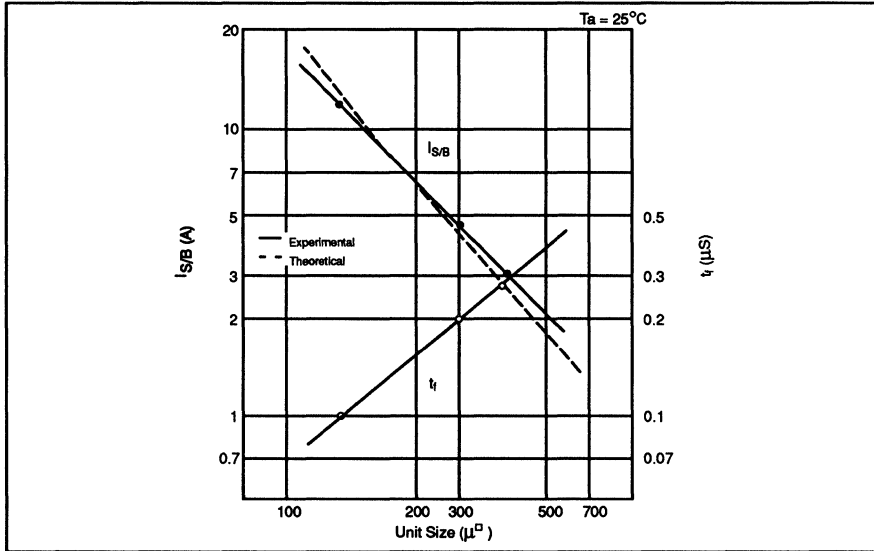

Figure 6. $I_{S/B}$ and t_f at the Dependence of Unit Size
Experimental results indicate that $I_{S/B}$ and fall time collate to cell unit size; that is, they are proportional to internal base resistance. This is shown in Figure 6 for the experimental results listed in Table 1. The results compare well with the theoretical calculation of Poisson's equation [eq. (2)] $I_{S/B}$ which is plotted with a dashed line in Figure 6.